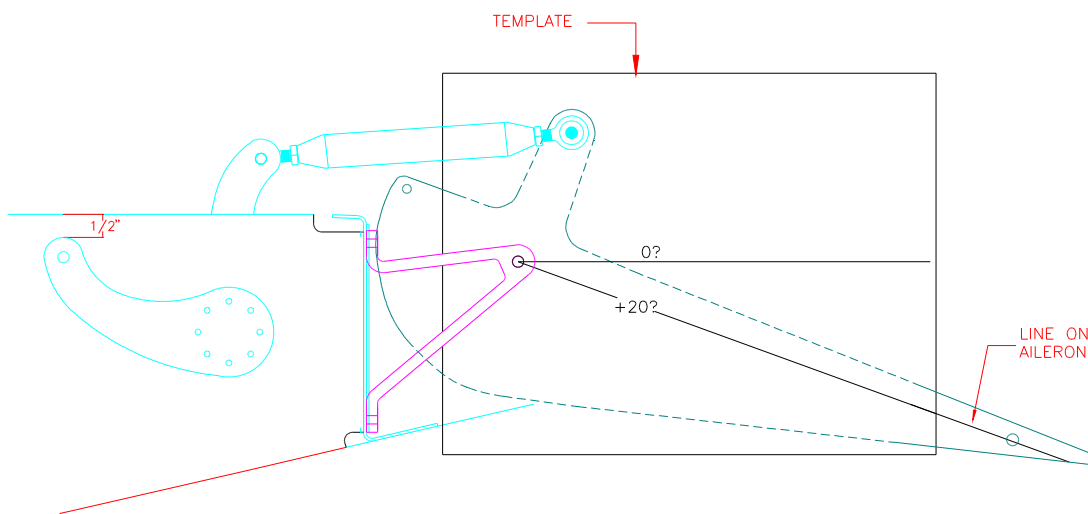

Figure 10.14.5
- 13) Bolt, (allowing some movement) a control horn (CC-43) to the end plug at the root end of the torque tube. Securely cleco together all parts fitted in step 250. Adjust control horn (CC-43) so that it clears the bottom of the wing by 1/2". Figure 10.14.5.